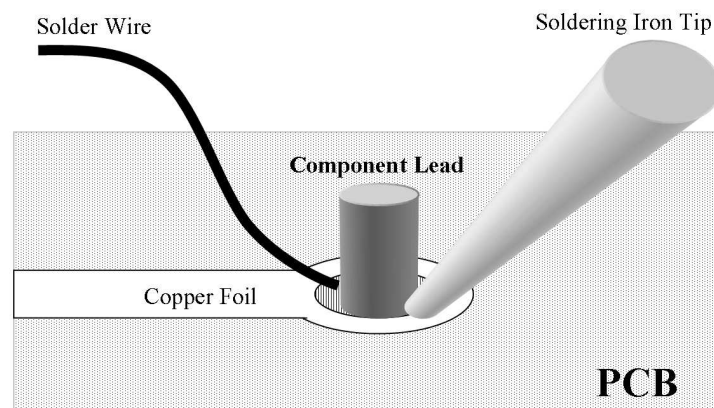

Figure 1.2: Method of Soldering Through Hole Joints
6. Apply the soldering iron tip to one side of joint making contact with the component lead and the board copper foil, ensuring that both are heated up to the same temperature as shown in Fig. 1.2 and Fig 1.3. Notice the tinned tip in Fig. 1.3.